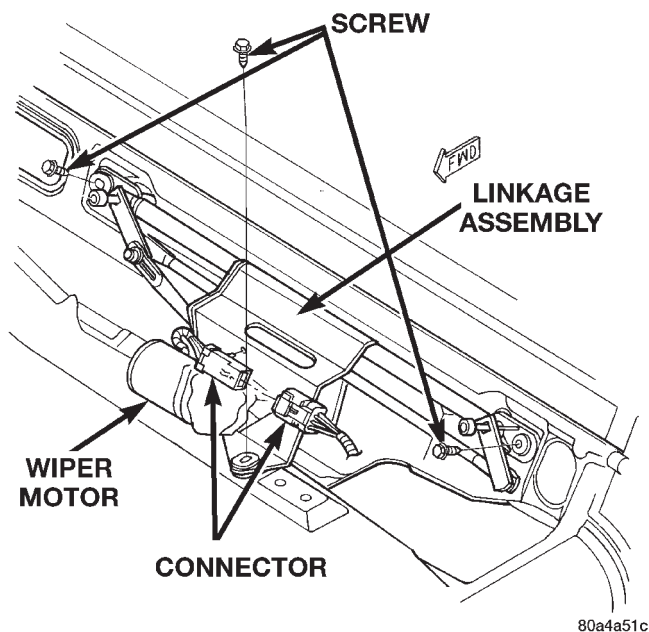

Fig. 11 Wiper Module Assembly Remove/Install
(7) Remove the one screw that secures each outboard end of the cowl plenum cover/grille panel to the cowl plenum panel.
(8) Carefully remove the cowl plenum cover/grille panel from the vehicle, so as not to damage the paint around the pivot openings of the panel.
(9) Reach into the cowl plenum and unplug the wiper motor wire harness connector.
(10) Remove the three screws that secure the wiper module mounting bracket to the cowl plenum panel (Fig. 11).
(11) Remove the wiper module from the cowl plenum as a unit.
(12) Release the retainer that secures the wiper motor wire harness connector to the wiper module bracket.